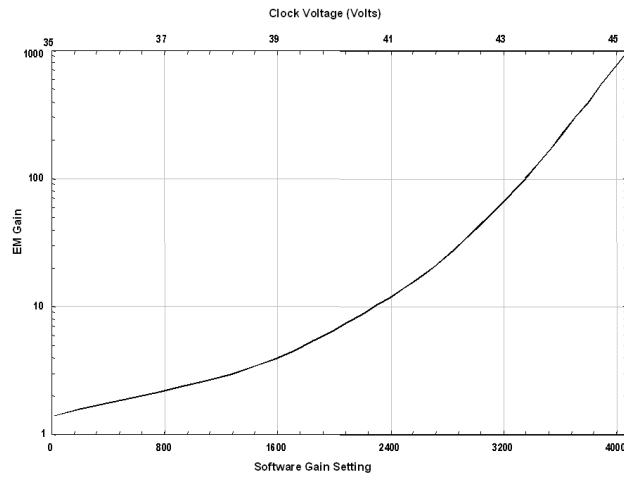

Figure 1 - Typical data of EM Gain versus Software Gain, showing a non-linear relationship. Data taken at -50°C.
- **Voltage dependence:** When the user applies gain through the software, it is the EM voltage in the gain register that is varied. As can be seen from Figure 1, the dependence of EM gain on EM voltage is sharp. This arises because the signal electrons gain energy as they are accelerated through the EM field, and once this field strength reaches the threshold needed to overcome the bandgap energy, the impact ionization rate rises rapidly.¹ This sharp dependence has meant that the software control of EM gain in EMCCD cameras to date has been via a non-linear scale, with most of the amplification occurring within a relatively small portion at the top of the overall scale. This has required considerable fine tuning by the user to determine an optimal gain setting, and even then the actual gain is determined only through measurement of a stable light source, with and without gain applied.